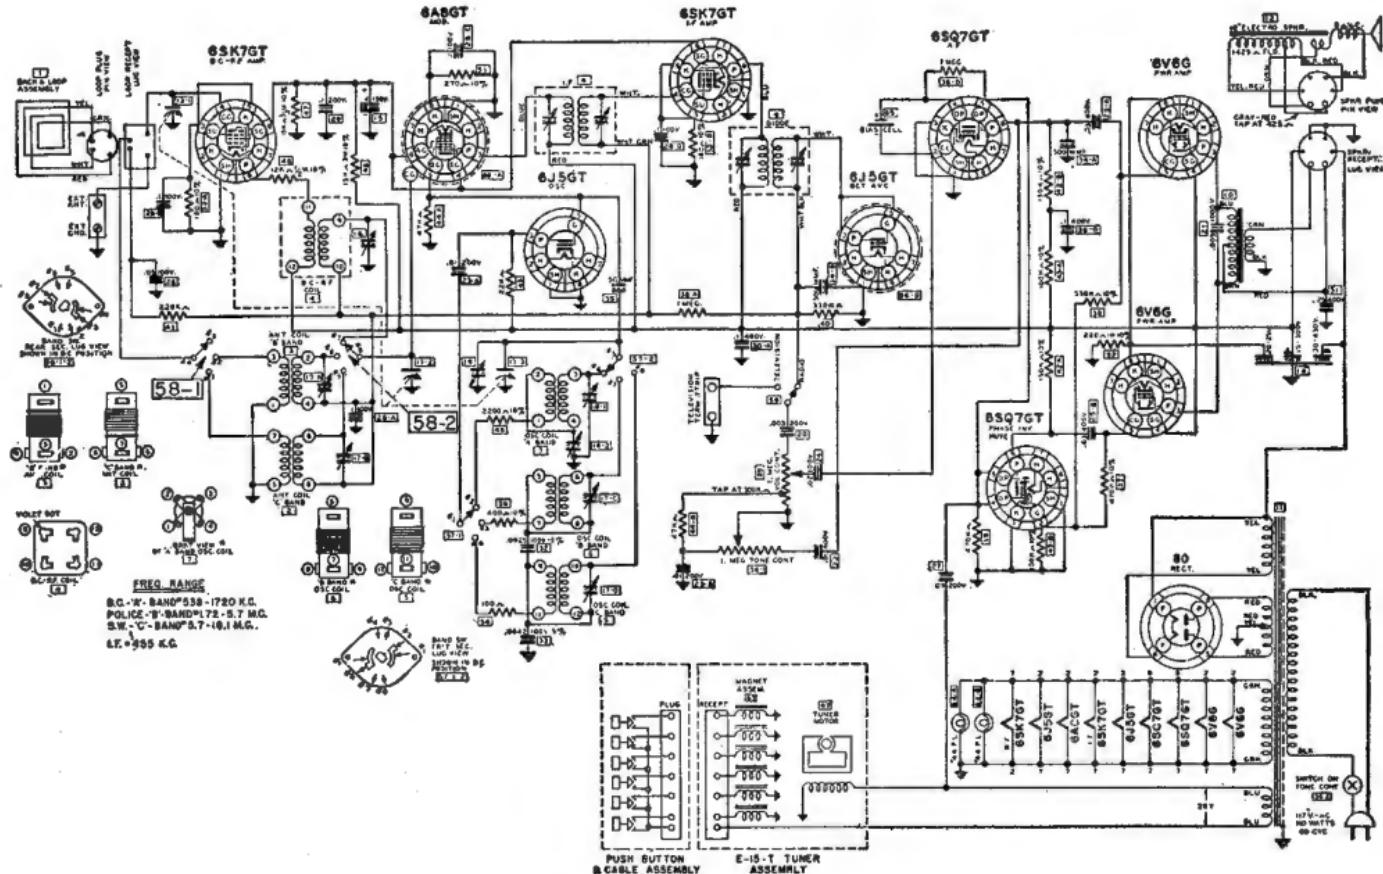

FIG. 16-9.—Schematic diagram of the Motorola 103K1 receiver.
on more than one band. The Motorola 103K1 receiver of Fig. 16-9 illustrates both of these points.
- The receiver of Fig. 16-9 is inoperative. Signal check shows that the trouble is in the RF stage. A voltage check of the RF stage gives the following results:
- The receiver of Fig. 16-9 has poor tone quality on local stations. Removing the RF tube and connecting the antenna to the plate terminal of the RF tube clear up the tone. What in the RF stage can cause this trouble? How would the serviceman confirm the cause?